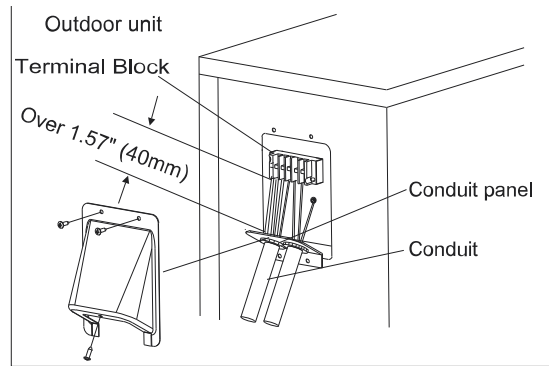

Fig. 14 —Field Wiring
5. Connect the conduit to the conduit panel (see Fig. 14).